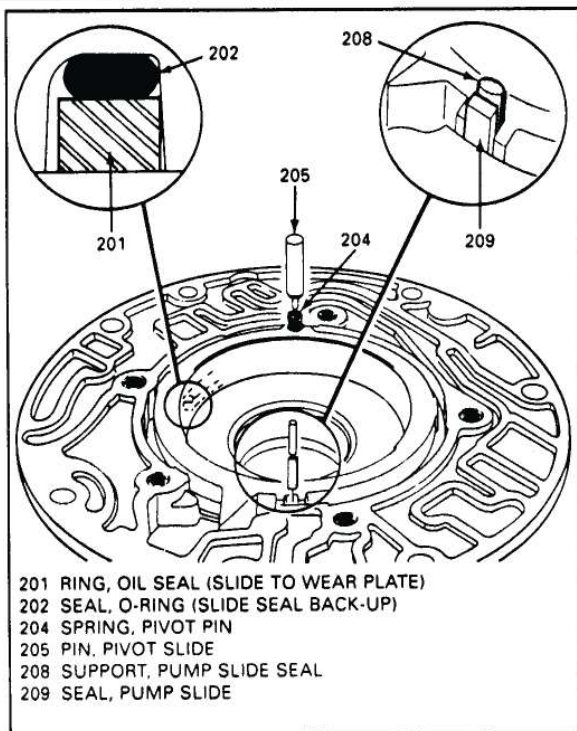

Figure 138
3. Install "O" ring back-up and oil seal ring into the groove on the back side of the pump slide (See Figure 138).
4. Install slide seal support and the Teflon slide seal onto pump slide and retain with TransJel (Figure 138).
7. Pull the pump slide straight towards the slide seal with one hand, and with the other hand install pivot pin and spring (See Figure 138).